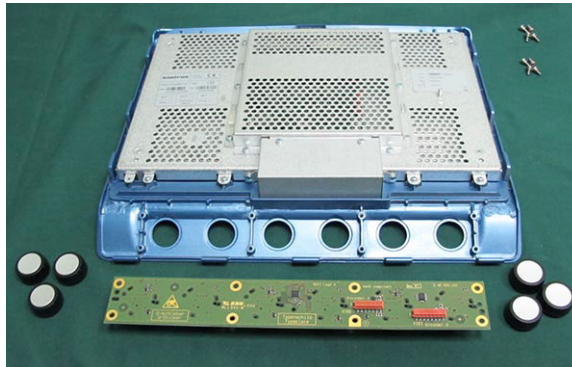

Figure 8-76 Touch Screen and Rotaries Board - Rotary Knobs Removed
- 4.) Remove the six rotary knobs from the Rotaries Board - Figure 8-76.